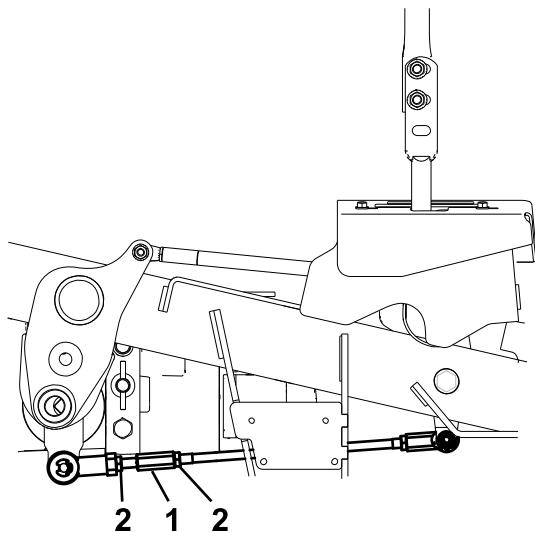

Figure 66
10. Adjust the pump control rod lengths by rotating the double nuts on the rod in the appropriate direction until the wheels slightly creep in reverse (Figure 66).